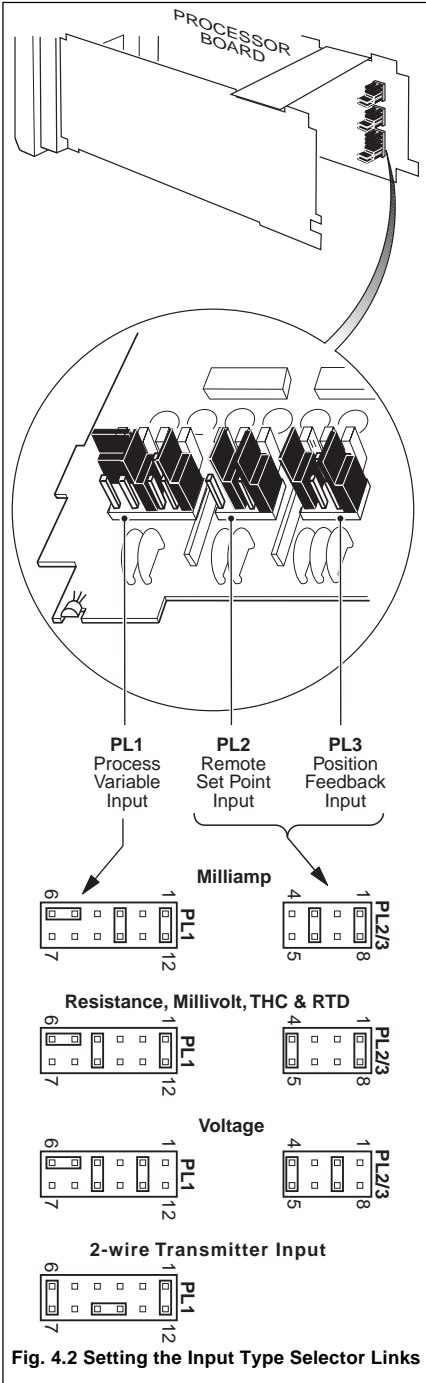

Fig. 4.2 Setting the Input Type Selector Links
4.2 Setting the Input Selector Links – Fig. 4.2
Referring to Fig. 4.2, set the link positions for the input type required.